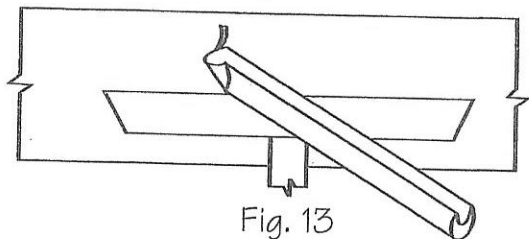

Fig. 13
- 4 Another area in which the turner can make use of the fingernail profile in spindle turning is by using a shear cutting principle with bevel contact, as shown (Fig. 13). We can often overcome many severe interlocking grain problems using this method.